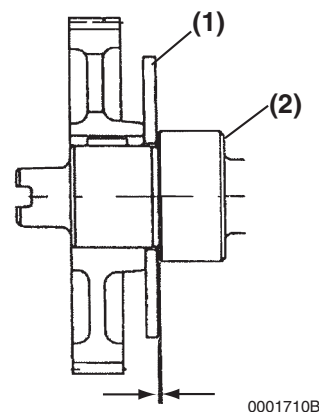

Figure 6-93
- Method B:** Use a feeler gauge to measure the clearance between the thrust plate (Figure 6-93, (1)) and front camshaft bearing (Figure 6-93, (2)). See Thrust Bearing on page 6-14 for the service limit.